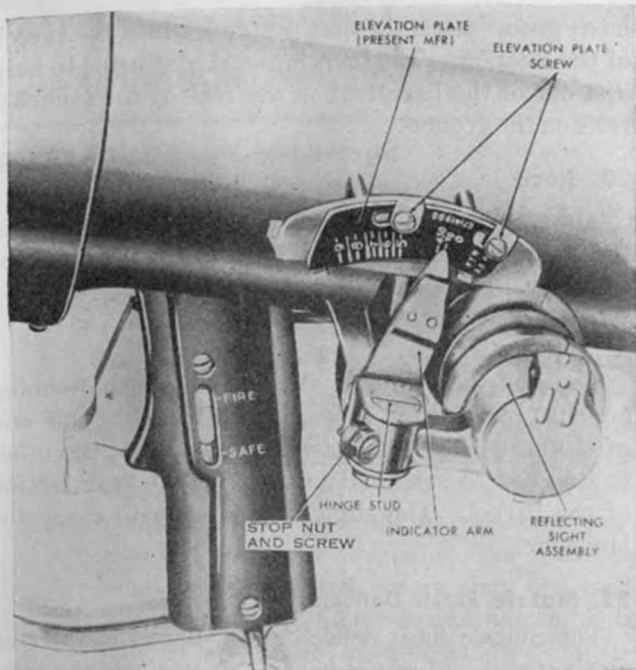

Figure 17. Reflecting sight assembly (in folded position) with elevation plate.
The reflecting sight lens frame (fig. 17) is secured to the indicator arm yoke by a hinge stud. This permits the sight to be either folded back against the launcher barrel when not in use or to be swung out into the firing position, when needed. The head of the hinge stud (fig. 17) is engraved with an index, which is set against an adjacent scale of five graduations on the indicator arm yoke. It is used for reference when setting the sight for deflection during boresighting.
- (1) Close the lens cover and fold the sight back against the side of the barrel (fig. 17).